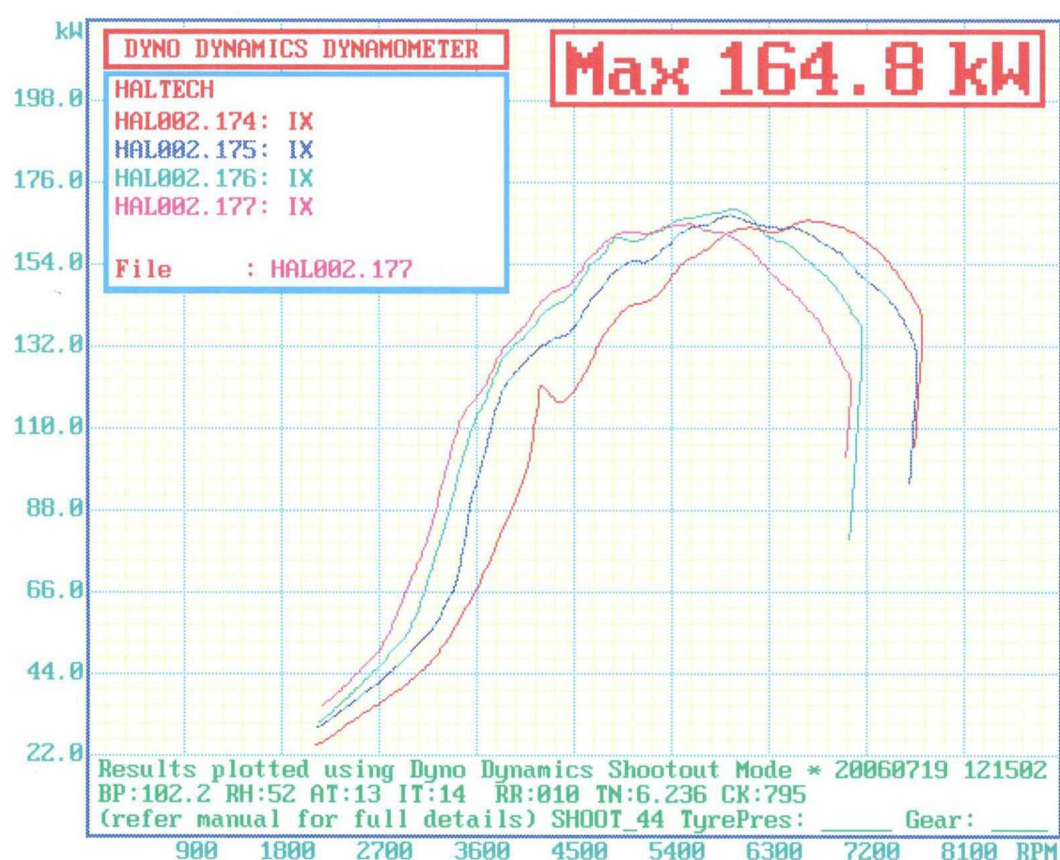

Figure 111 - Dyno runs at 0° (red), 10° (blue), 20° (green) and 30° (purple) cam degrees.
**Figure 111** shows 4 dyno runs which held the cam at different positions, 0°, 10°, 20° and 30° cam degrees. The first run (in red) at 0 degrees shows the maximum power was made roughly at 6500 RPM whereas the last run (in purple) at 30 degrees shows its maximum power at about 5500 RPM. The runs at 10 degrees (in blue) and 20 degrees (in green) show their maximum power as being between the 0 degree run and the 30 degree run. With the variable cam timing it is possible to start the cam angle at 30 degrees up to 5500 RPM and gradually move it down to 0 degrees when the engine goes to 6500 RPM and therefore stretch out the RPM range where the maximum power is made. Note there is also extra power made in the mid range of the RPM with the cam advance to 30 degrees.